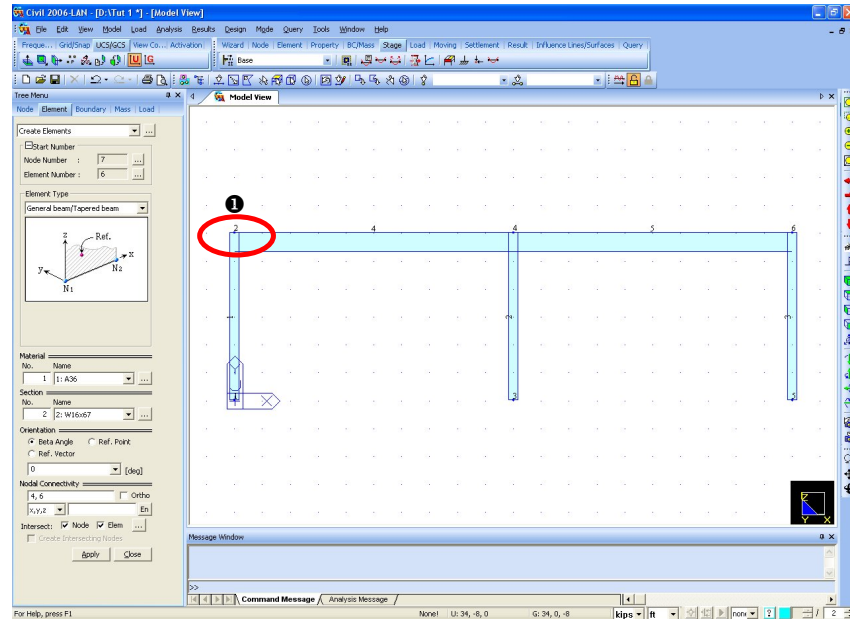

Figure 1.9 Generation of 2-D Frame
☞ Check (✓) Align Top of Beam Section to Floor (X-Y Plane) for Panel Zone Effect/ Display in Model> Structure Type of Main Menu. Then, the effect of the beam/column panel zone will appear as ❶ in Fig.1.9.